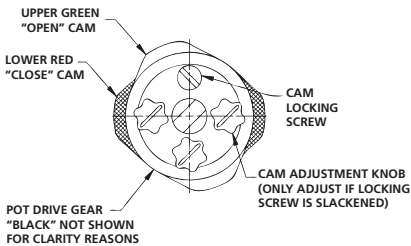

Figure 5. Top view of the indicator cam shaft.
3. Loosen the cam locking screw shown in Figure 5.